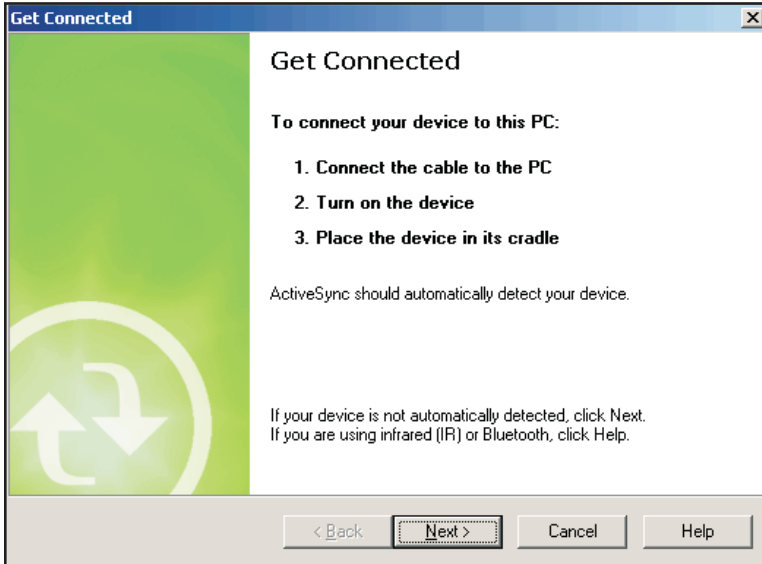

Figure 80 Do **NOT** Click Next
2. When the Installation Screen appears, select the “Install ActiveSync” button (Figure 79) and follow the on-screen prompts until you see the “Get Connected” screen (Figure 80).
3. When you see the “Get Connected” screen (Figure 80), click **Cancel**.